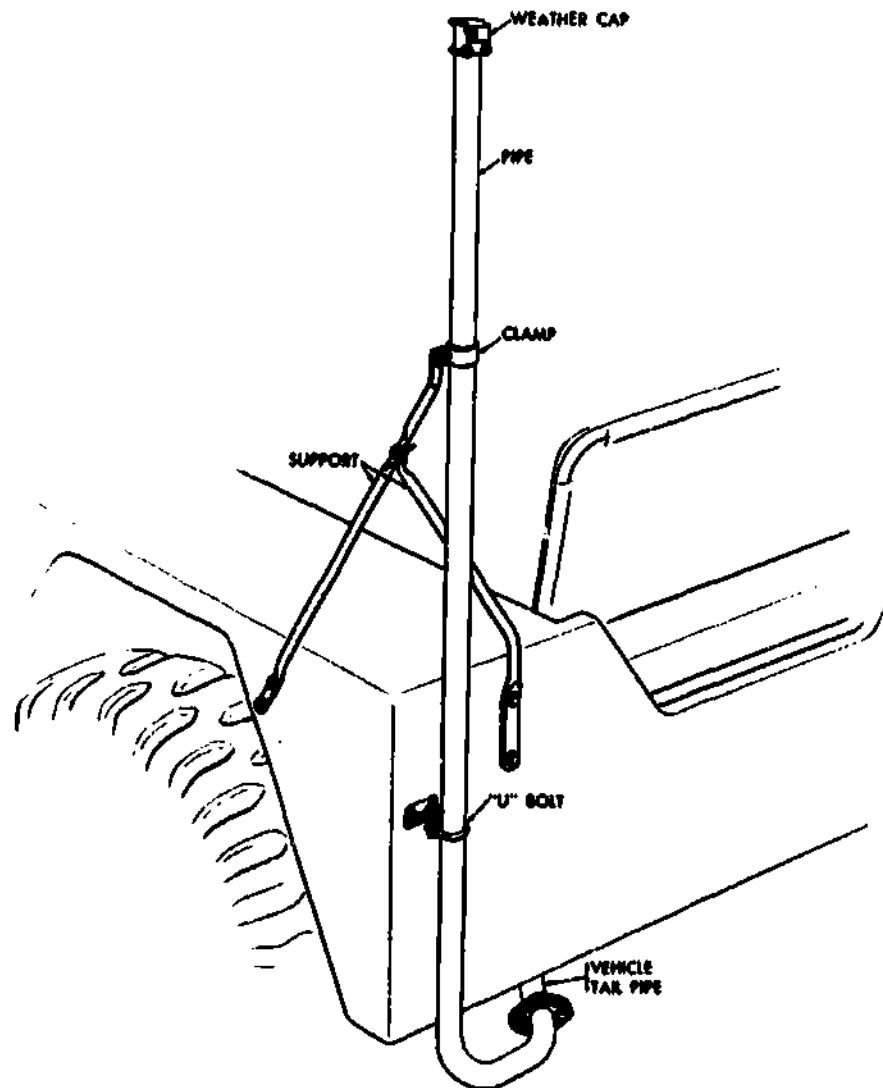

Fig 5-13. Preparing tailpipes for deep water fording.
b. Preparing tailpipes for deep water fording (fig 5-13). To prepare a vehicle for deepwater fording, a special tailpipe extension is usually required. The extension is connected to the vehicle tailpipe and extends up alongside the vehicle body. Pipes like these, or those on tractor trucks that point up, should either be curved outward at the end or have a weather cap installed. Otherwise, rain water can enter the pipe. The weather cap may be a flapper valve that is closed by a spring or the weight of the valve and opened by exhaust pressure.